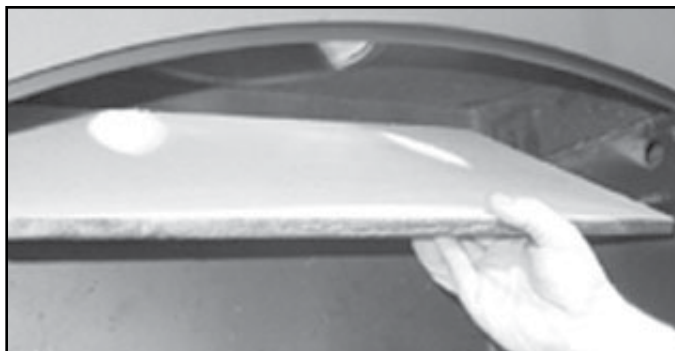

Figure 4.7 Removing Baffle (shown without ceramic blanket)
- Slide fiber board baffle forward to front of fireplace and straight out through door. See Figure 4.7.